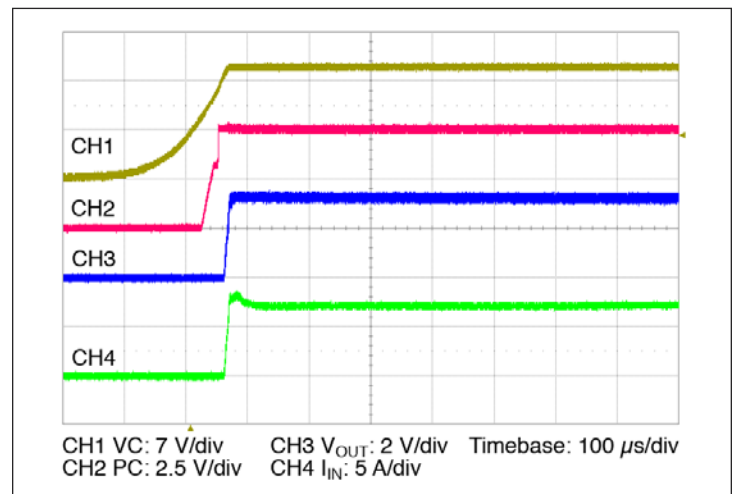

Figure 14 — Start up from application of  $V_C$ ;  $V_{IN}$  pre-applied  $C_{OUT} = 0 \mu$ F
- Stand Alone Operation (VC applied after VIN): In this case the module output will begin to rise upon the application of the VC voltage (See Figure 14). The Adaptive Soft Start circuit (See Section 10) may vary the output rate of rise in order to limit the inrush current to its maximum level. When starting into high capacitance, or a short, the output current will be limited for a maximum of 900 µsec. After this period, the adaptive soft start circuit will time out and the module may shut down. No restart will be attempted until VC is re-applied, or PC is toggled. The maximum output capacitance is limited to 4000 µF in this mode of operation to ensure a successful start.